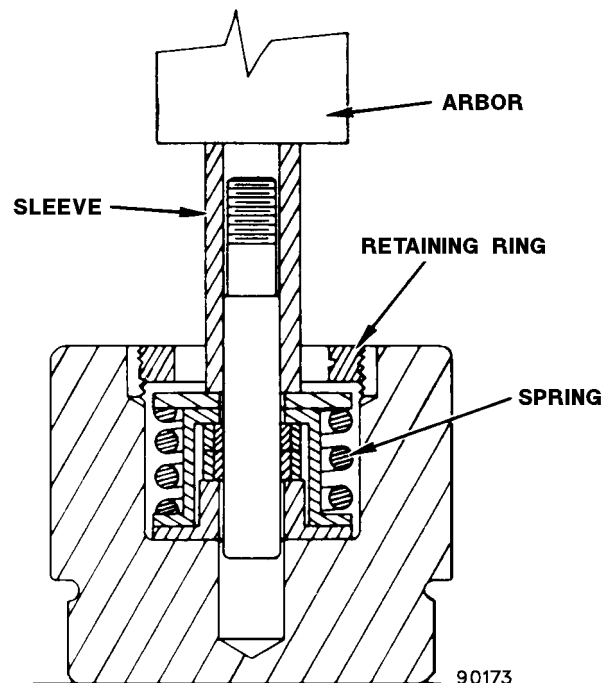

FIGURE 6-14. RETAINING RING REMOVAL
2. Remove lockwire ring (15).
3. Place piston assembly on arbor press table, place sleeve (A) special tool illustrated in Figure 6-6 or equivalent) over return pin, lower arbor and fully compress return spring (Figure 6-14) and hold.